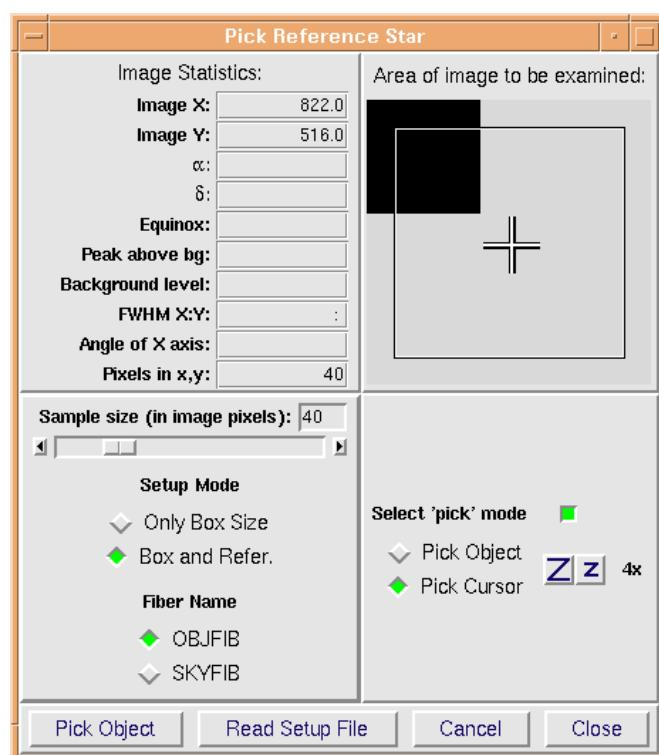

Figure 6.1: Window to set FEROS fibre reference position Pick Reference Star. Select checkbox Pick Cursor.
- Open or activate window Pick Reference Star (Fig. 6.1, p. 54).